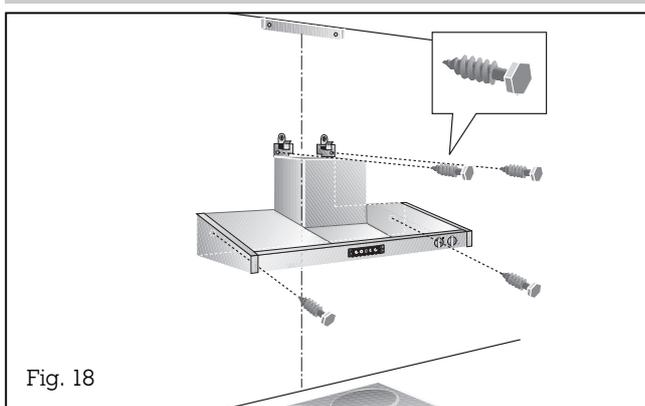

Fig. 18
- Secure the hood to the wall using the 4 screws **b** (Fig. 18).